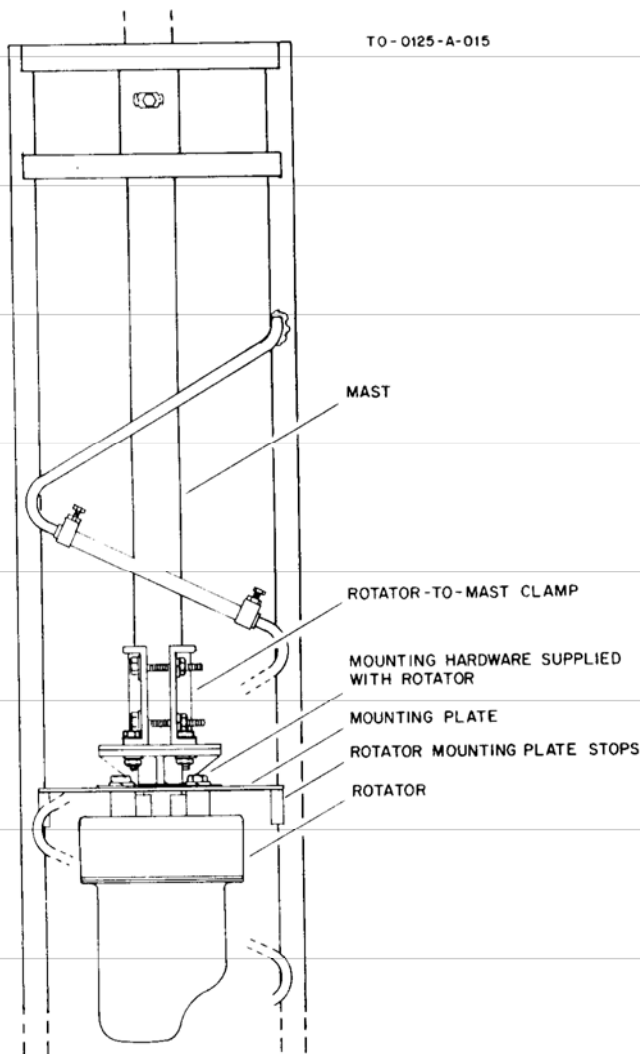

Figure 17
- For a rotator that installs below the mounting plate follow the steps below and refer to Figure 17.
4. Assemble the rotator-to-mast, mast platform and mast as shown in Figure 17.